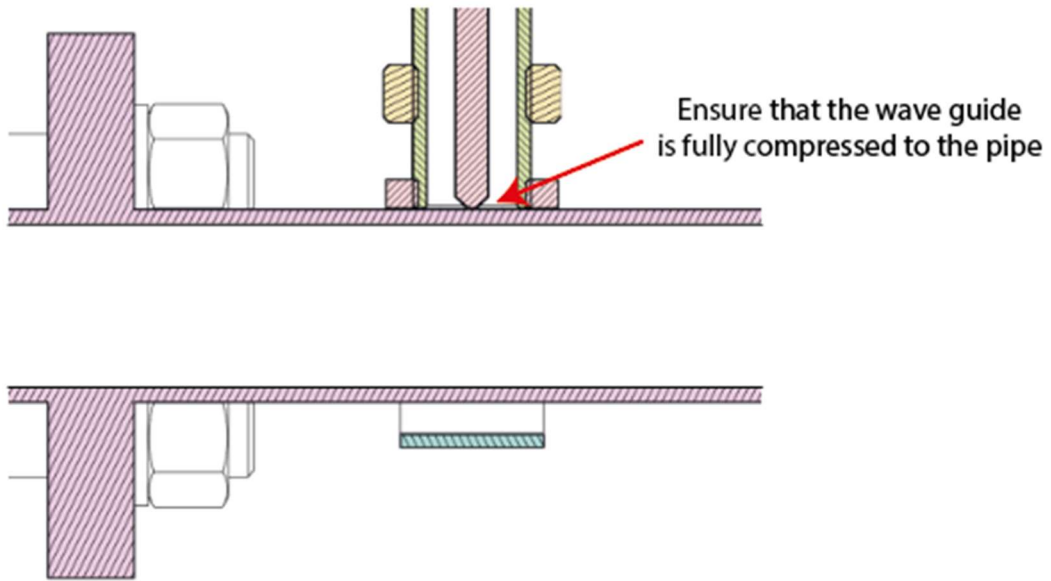

Figure 7.- Waveguide installation – Compression detail
6. For LeakSense module, it is essential to ensure that the waveguide is in firm and direct contact with the pipe surface, as proper acoustic coupling is critical for reliable measurement performance, as can be shown in Figure 7.
5. For LeakSense module, it is essential to ensure that the waveguide is in firm and direct contact with the pipe surface, as proper acoustic coupling is critical for reliable measurement performance, as can be shown in Figure 7.